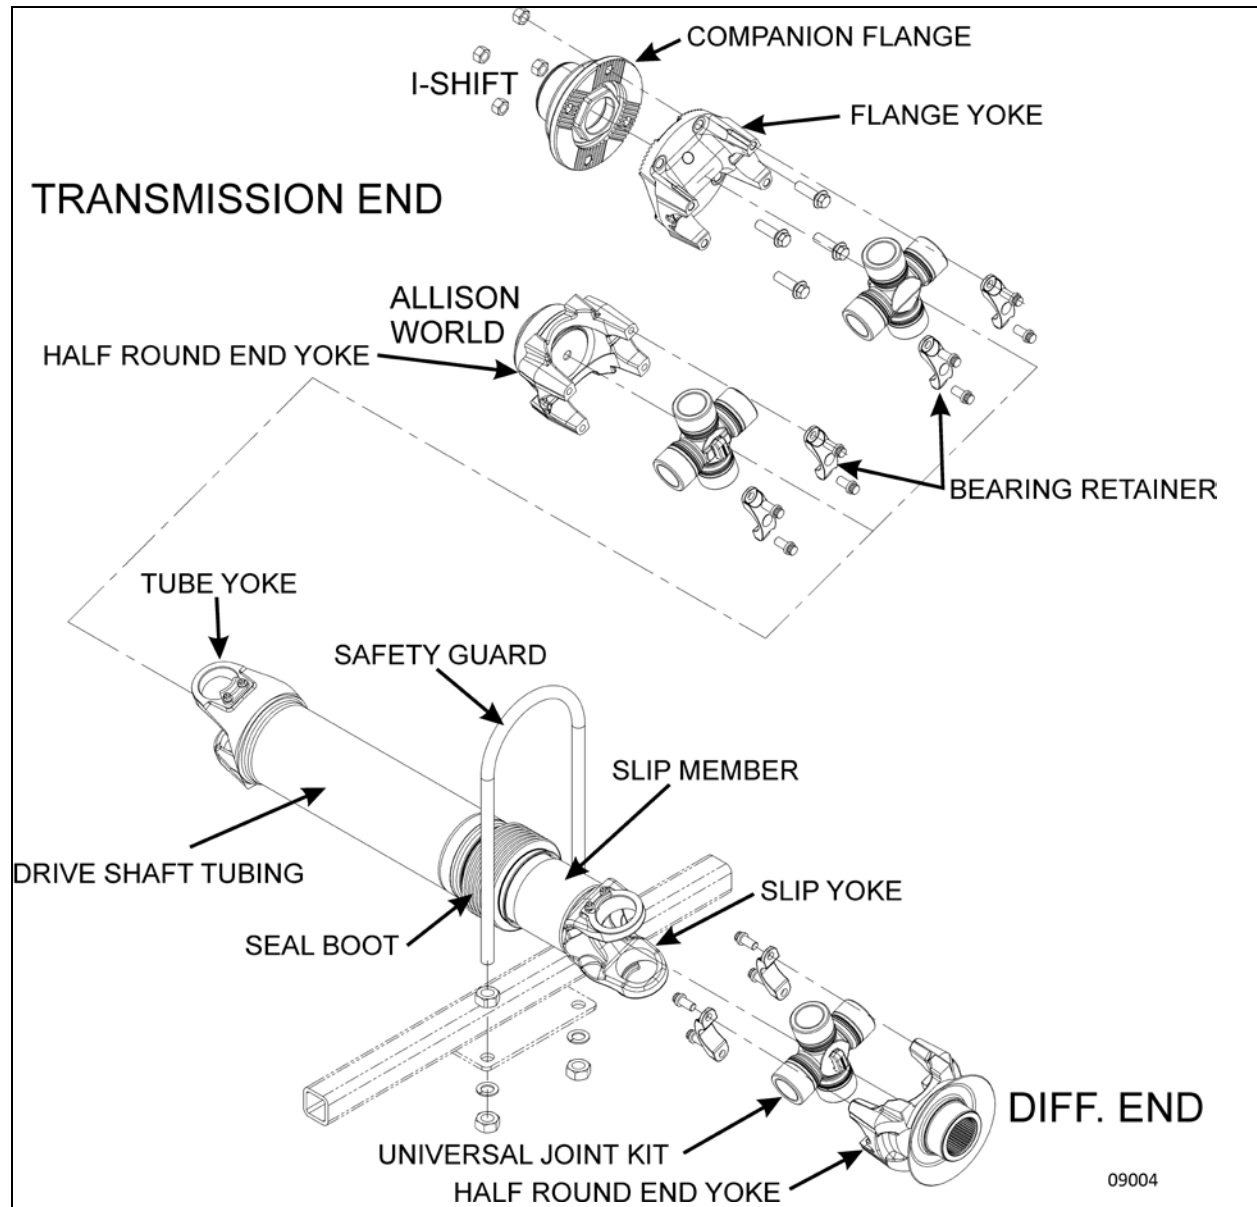

FIGURE 1: PROPELLER SHAFT ASSEMBLY (typical)
The propeller shaft transmits power from the transmission to the differential. Refer to paragraph "6. SPECIFICATIONS" at the end of this section for propeller shaft length. The propeller shaft is Dana Spicer Life Series SPL250 type with tubular shafts. It is provided with two heavy-duty universal joints (FIGURE 1).
- **All universal joints securing hardware (bearing retainers and bearing retainers bolts, spring tabs and bolts) must be removed and replaced** using new OEM specified replacement parts (FIGURE 1 & Figure 2).